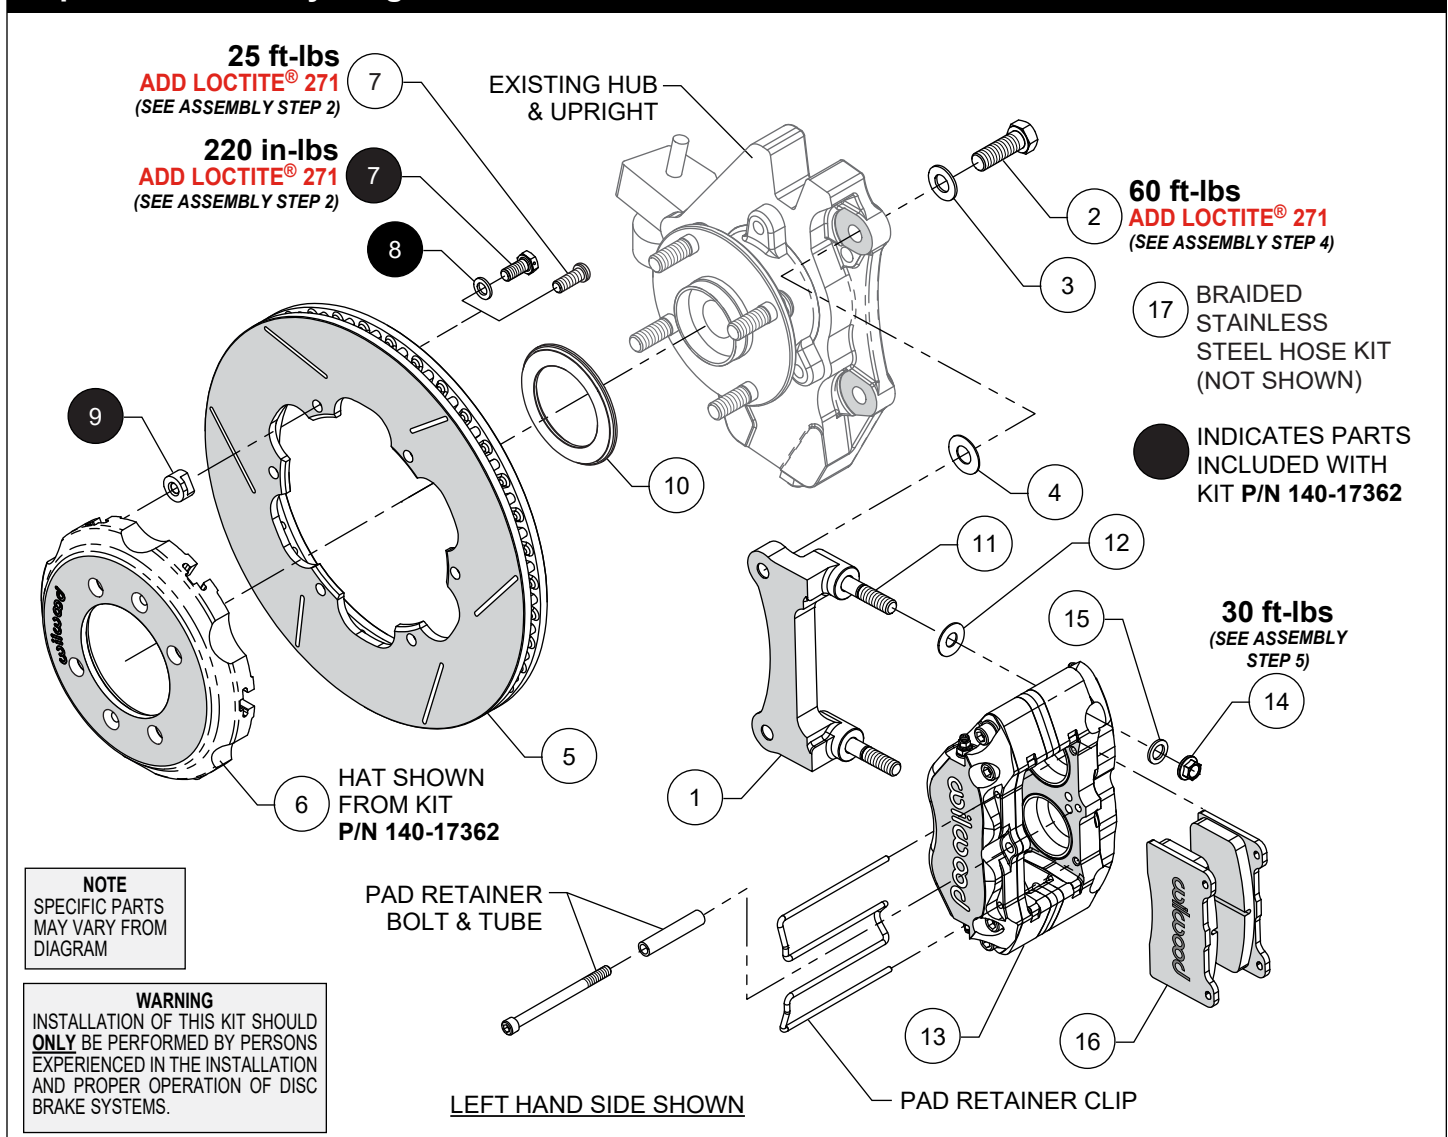
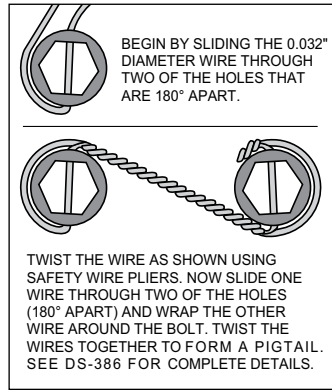

Figure 1. Typical Installation Configuration
Figure 3. Safety Wire Diagram
Numbers in parenthesis refer to the parts list and Figure 1 on the preceding pages.
STEP 1 The caliper mount bracket (1) should initially be installed with clean, dry threads on the mounting bolts. Orient the bracket as shown in Figure 1 and Photo 1, and install using bolts (2) and washers (3). Initially place one .033" thick shim (4) on each bolt between the bracket and upright, Figure 1 and Photo 2. Temporarily tighten the mounting bolts. **NOTE:** *The bracket must fit squarely against the mount bosses on the upright.* Inspect for interference from casting irregularities, machining ridges, burrs, etc. Later, after the caliper alignment has been checked, the mount bolts will be secured using red *Loctite*® 271.
For kit p/n 140-17362: Insert the t-nuts (9) into hat (6), Photo 3. Orient the rotor (5) and hat (6) as shown in Figure 1 and Photo 4a, then attach rotor to hat using bolts (7) and washers (8). Apply red *Loctite*® 271 to the bolt threads and torque to value shown in Figure 1 using a criss-cross pattern. Safety wire the bolts using standard 0.032 inch diameter stainless steel safety wire as shown in Figure 3. Refer to Wilwood's data sheet DS-386 (available at www.wilwood.com/Pdf/DataSheets/ds386.pdf) for complete safety wire installation instructions.
For kit p/n 140-17363: Orient the rotor (5) and hat (6) as shown in Figure 1 and Photo 4b, then attach rotor to hat using bolts (7). Apply red *Loctite*® 271 to the bolt threads and torque to value shown in Figure 1 using a criss-cross pattern.
STEP 3 Slide the rotor registration adapter (10) onto the register of the hub assembly with the smaller O.D. facing outward, Photo 5. Slide the rotor/hat assembly (5/6) onto the hub assembly. **NOTE:** *The hat must fit flush against the hub flange or excessive rotor run out may result.* Install three lug nuts (finger tight) to keep the rotor/hat assembly in place while continuing with the installation.
STEP 4 Mount the caliper (13) onto the caliper bracket studs (11). Initially place one .035" thick shim (12) on each stud as shown in Figure 1 and Photo 6. Mount the caliper (13) onto the bracket (1) using lock nuts (14) and washers (15), Figure 1. Temporarily tight-
en the lock nuts and view the rotor through the top opening of the caliper. The rotor should be centered in the caliper, Photo 7. If not, adjust by adding or subtracting shims (4) between the bracket and the upright. Always use the same amount of shims on each of the two mounting bolts. Once the caliper alignment is correct, remove the bracket mounting bolts (2) one at a time, apply red *Loctite*® 271 to the threads, and torque to value shown in Figure 1.
STEP 5 Remove the caliper pad retainer clip, bolt and tube from the caliper. Insert the brake pads (16) into the caliper, with the friction material facing the rotor, as shown in Photo 8. Check that the top of the brake pad is flush with the outside diameter of the rotor, Photo 9. If not, adjust by adding or subtracting shims (12) between the caliper and the bracket. After the caliper pad height is set, reinstall the pad retainer clip, bolt and tube. The bolt should be snug without play in the tube. Be cautious not to over tighten. Torque the caliper lock nuts (14) to value shown in Figure 1.